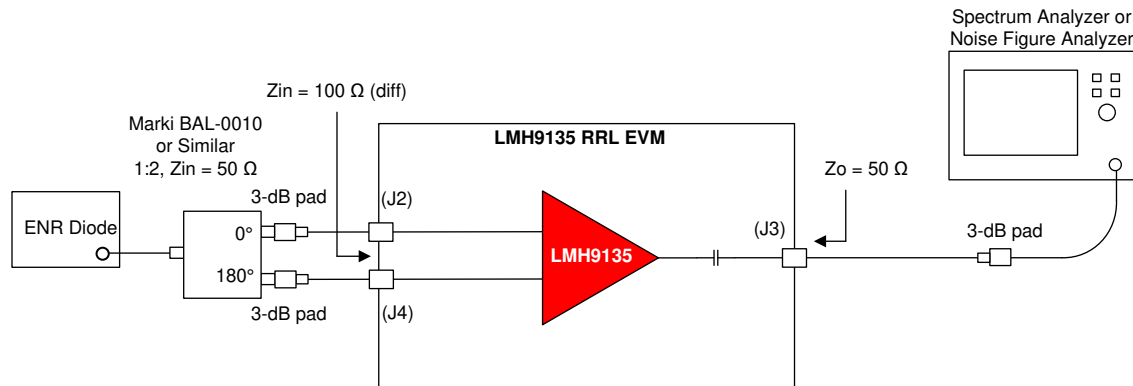

**Figure 3-2. S-Parameter Test Setup**
| Figure 3-2. S-Parameter Test Setup.....  | 10 |
1. S-parameter measurement is typically done using a Vector Network Analyzer (VNA), as Figure 3-2 shows. For measuring the LMH9135 EVM, a 4-port VNA is recommended which can generate and receive truly differential signals at the input and output ports.